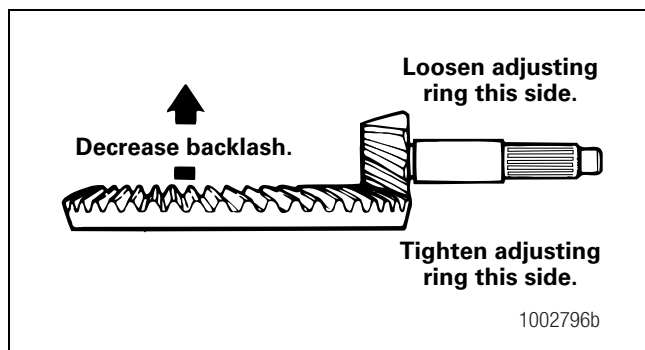

Figure 5.60
- **To decrease the backlash:** Move the ring gear toward the drive pinion. Figure 5.60.